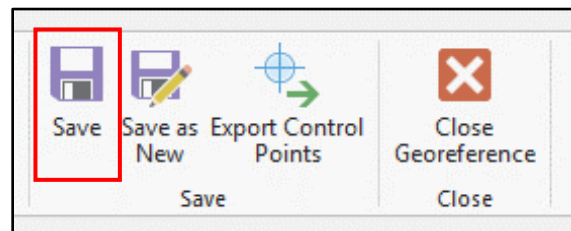

Figure 35
6. Once satisfied with the image location, click "Save" in the Georeferencing toolbar and the spatial information will be saved with the TIFF file (Figure 35).